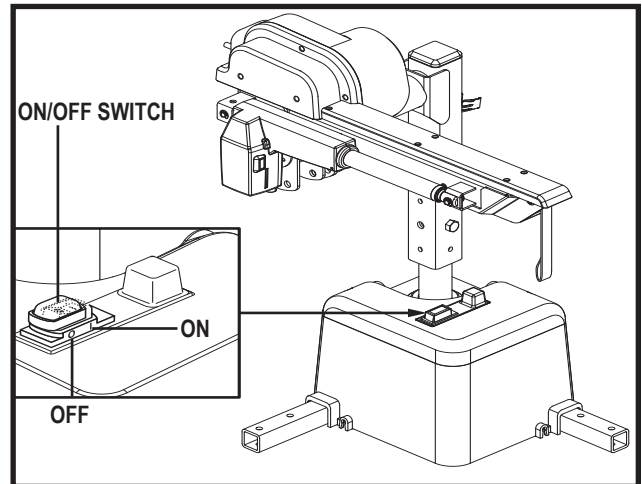

Figure 6. ON/OFF Switch
The lift system is equipped with an ON/OFF switch that enables/disables operation. Toggle the ON/OFF switch to the “I” position to turn the power on; to the “O” position to turn the power off. **See figure 6.**
NOTE: The ON/OFF switch also functions as the circuit breaker reset button. **See figure 6.**
- Check the circuit breaker reset button. Reset if necessary. **See figure 6.**
If your lift system is heavily strained because of excessive loads, the main circuit breaker (**see figure 6**) may trip to protect the monitor and electronics from damage. When the breaker trips, the entire electrical system shuts down.
2. Push in the reset button to reset the breaker. **See figure 6.**